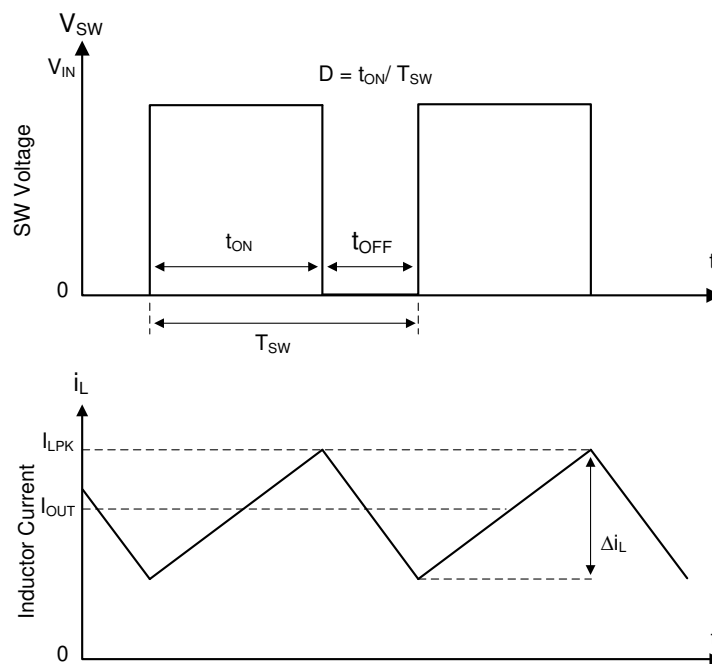

図 7-1. SW Node and Inductor Current Waveforms in Continuous Conduction Mode (CCM)
The following operating description of the LMR51635 refers to セクション 7.2 and to the waveforms in 図 7-1. The LMR51635 is a step-down, synchronous, buck converter with integrated high-side (HS) and low-side (LS) switches (synchronous rectifier). The LMR51635 supplies a regulated output voltage by turning on the high-side and low-side NMOS switches with controlled duty cycle. During high-side switch ON time, the SW pin voltage swings up to approximately V_{IN} , and the inductor current, i_L , increases with a linear slope of $(V_{IN} - V_{OUT}) / L$. When the high-side switch is turned off by the control logic, the low-side switch is turned on after an anti-shoot-through dead time. Inductor current discharges through the low-side switch with a slope of $-V_{OUT} / L$. The control parameter of a buck converter is defined as Duty Cycle $D = t_{ON} / T_{SW}$, where t_{ON} is the high-side switch ON time and T_{SW} is the switching period. The converter control loop maintains a constant output voltage by adjusting the duty cycle D . In an ideal buck converter, where losses are ignored, D is proportional to the output voltage and inversely proportional to the input voltage: $D = V_{OUT} / V_{IN}$.